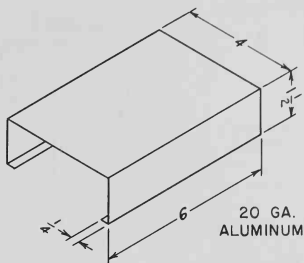

Fig. 11-5. Radio chassis.
1. Develop the pattern for the radio chassis as shown in Fig. 11-5.